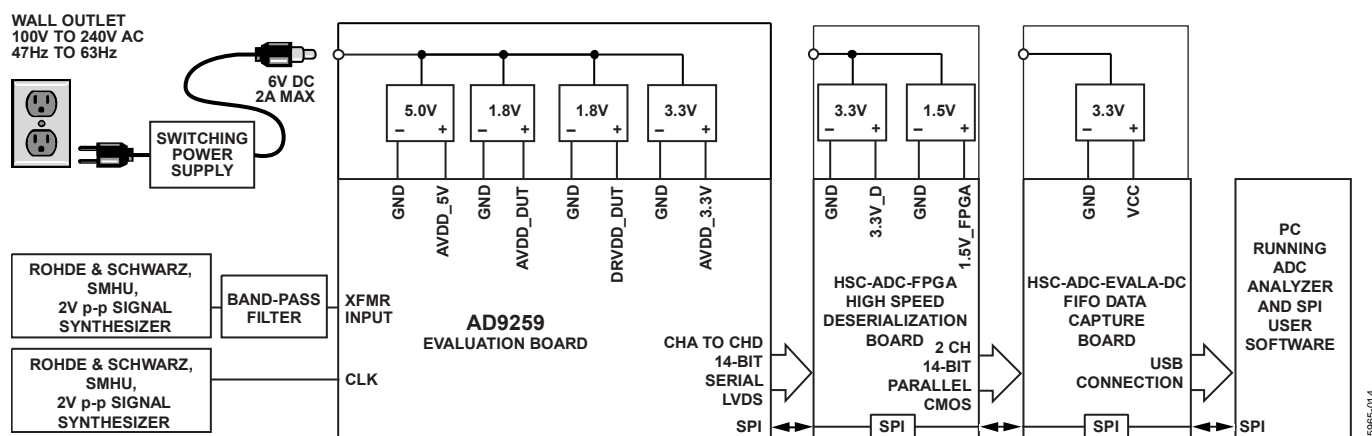

Figure 61. Evaluation Board Connection
The AD9259 evaluation board provides all of the support circuitry required to operate the ADC in its various modes and configurations. The converter can be driven differentially through a transformer (default) or through the AD8332 driver. The ADC can also be driven in a single-ended fashion. Separate power pins are provided to isolate the DUT from the AD8332 drive circuitry. Each input configuration can be selected by proper connection of various jumpers (see Figure 63 to Figure 67). Figure 61 shows the typical bench characterization setup used to evaluate the ac performance of the AD9259. It is critical that the signal sources used for the analog input and clock have very low phase noise (<1 ps rms jitter) to realize the optimum performance of the converter. Proper filtering of the analog input signal to remove harmonics and lower the integrated or broadband noise at the input is also necessary to achieve the specified noise performance.
- **D+, D-:** If an alternative data capture method to the setup described in Figure 61 is used, optional receiver terminations, R206 to R211, can be installed next to the high speed back-plane connector.